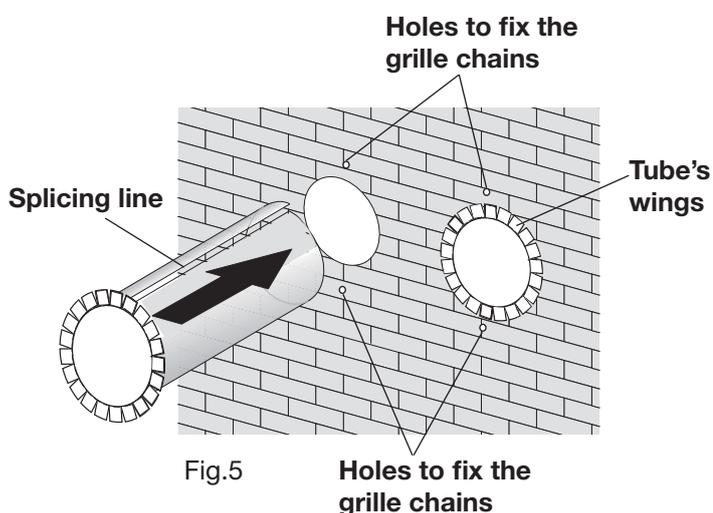
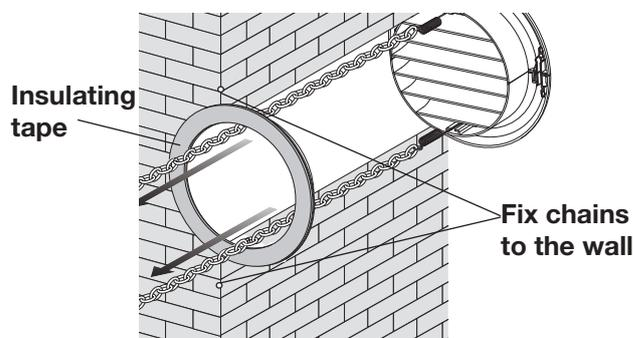

Fig.5
Fig. 7
- Insert in the two holes the obtained plastic tubes, paying attention to the splicing line (Fig. 5), which must always face upwards.
- Apply the adhesive insulating tape (Fig. 7) on the tubes' wings at the wall. (Fig. 5)
- Pull the chain, tensioning the spring, and fix the chain rings into the holes in the wall (fig. 5 - 7) using the supplied screws with washer.